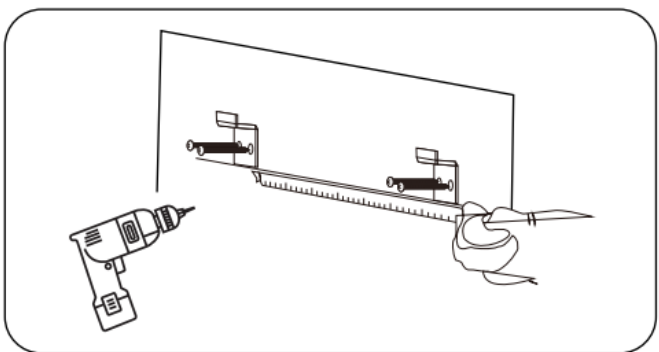

Figure 16
1. After assembling the screen, determine the location of the wall mounting area and use expansion screws to make holes in appropriate locations based on the number of hangers for the frame (the specific number of hangers is configured based on size specifications). If the wall is a wooden wall and can support weight, directly fix it with self-tapping screws. Install the hangers for the frame and screen, ensuring that they are at the same horizontal level and firmly secured (see Figure 16).